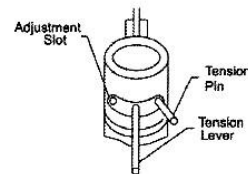

FIGURE 2
- C. Rotate Tension Lever Tool to the left and insert Tension Pin loosely in the right of Tension Lever Tool. (see FIGURE 2)